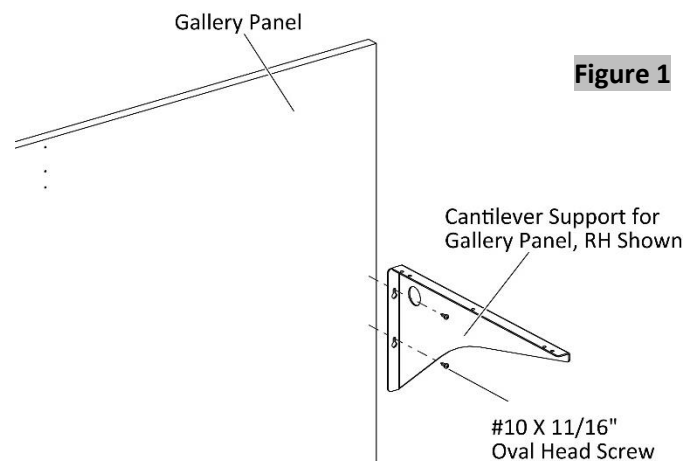

Figure 1
3. Align the top edge of the cantilever support to the marker and flush with the vertical edge of the gallery, (Figure 1).